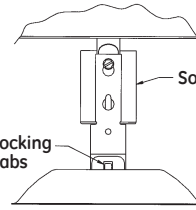

Figure 5
- 1a. On VS5 units push the reflector mounting bracket thru the reflector opening and slide it over the socket brackets all the way. On 400 watt Metal Halide units the top (first) hole of the mounting bracket will snap over the socket bracket screws. On all others, the bottom (second) hole will snap over the bracket screws. (Figure 5) For additional assembly instructions, refer to the instruction sheet that came in the small box with the metal reflector and mounting bracket.